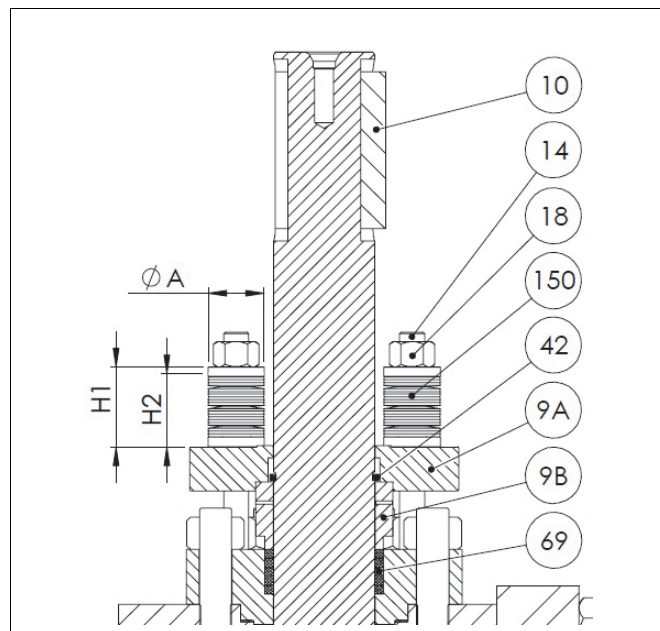

Fig. 10 Gland packing
- ☐ Remove the key (10).
- ❑ Remove the nuts (18), the disc spring sets (150) the gland (9A), retainer ring (42) and sleeve (9B).
- ❑ Remove old packing rings (69). Do not damage the surfaces of the packing ring counterbore and shaft.
- ❑ Place the new packing rings (69) over the shaft (5). The gland follower may be used for pushing the rings into the counterbore. Do not damage packing rings in the shaft keyway.
- ❑ Pre-compress the packing rings first either by tightening the gland nuts (with or without disc springs) to the torque  $T_t$  or by tightening the gland with disc springs to the height  $H_2$ . See Fig. 10 and the value from Table 1.
- ❑ Loosen the gland nuts. Place the disc spring sets (150) on the gland studs as applicable. Retighten the nuts (18) to the torque  $T_t$  or so that the disc springs are compressed to the height  $H_2$ , see Table 1.